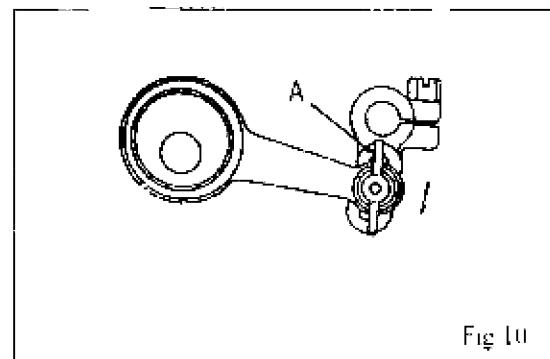

Fig.10
11. ADJUSTING THE LIFT OF THE ALTERNATING PRESSER FEET (Fig.10)